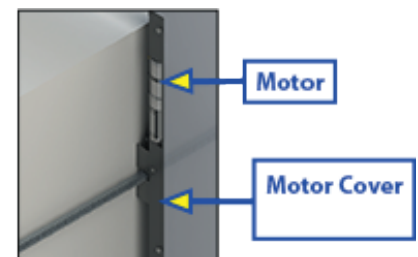

Fig. 7
1. Gain access from either the inside or outside of the unit to the vertical channel assembly by removing the OEM trim and flange pieces on the slide-out room box. The motors (**Fig. 7**) are currently located at the top of the channel.